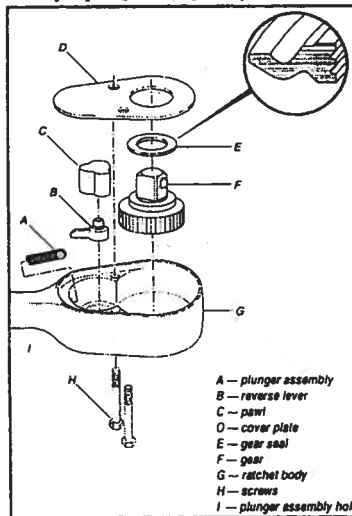

Figure 1: Sealed Ratchet Assembly and Parts List
To disassemble the Sealed Ratchet, complete the following steps. Refer to *Figure 1* for the parts list.
- 7. Insert the gear seal (E) into the cover plate (D), oriented as shown in *Figure 1*.